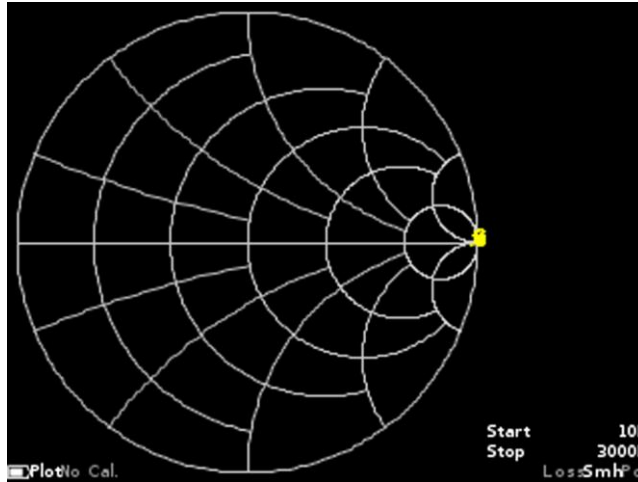

Figure 9.22 – The Smith chart after calibration of the device
9.9.1. Perform a full single-port calibration of the device in accordance with paragraph 9.5 of this Manual. The Volpert-Smith graph, or polar chart, will shrink into a circle with a minimum radius if calibration is successful (figure 9.22).